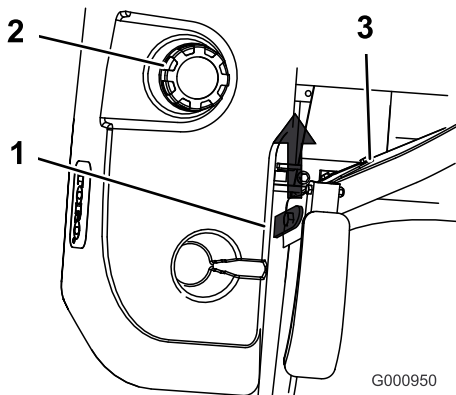

Figure 27
3. Raise the seat up. This will allow access to the machine under the seat (Figure 27).